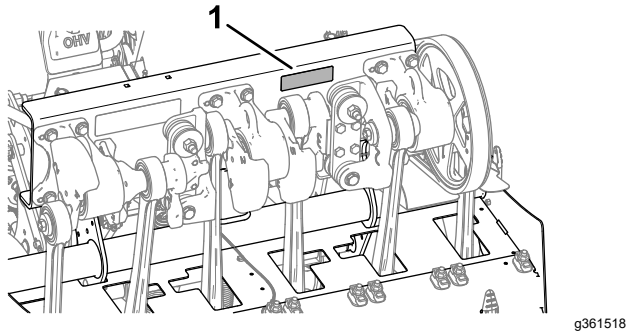

**Figure 171**
3. Check the coring head fasteners, tiller handle fasteners, and wheel lug nuts to ensure that the proper torque is maintained. Fastener torque requirements are listed on the bolt torque decal located on the coring head support channel (Figure 171).